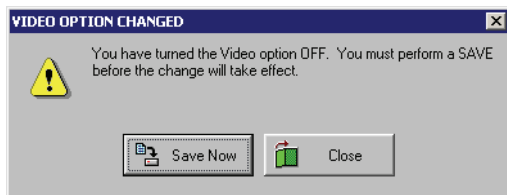

Figure 15-13: Video Option Changed - OFF
- Click in the Video ON check box. The check mark that was there disappears and the following window appears (see Figure 15-13).